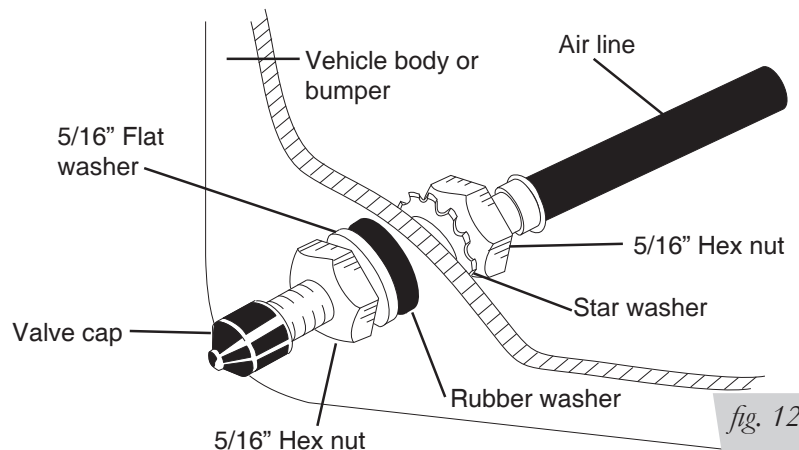

fig. 12
4. Place a 5/16" nut and star washer on the air valve. Leave enough of the inflation valve in front of the nut to extend through the hole and have room for the rubber washer, flat washer, and 5/16" nut and cap. There should be enough valve exposed after installation—approximately 1/2"—to easily apply a pressure gauge or an air chuck (fig. 12).